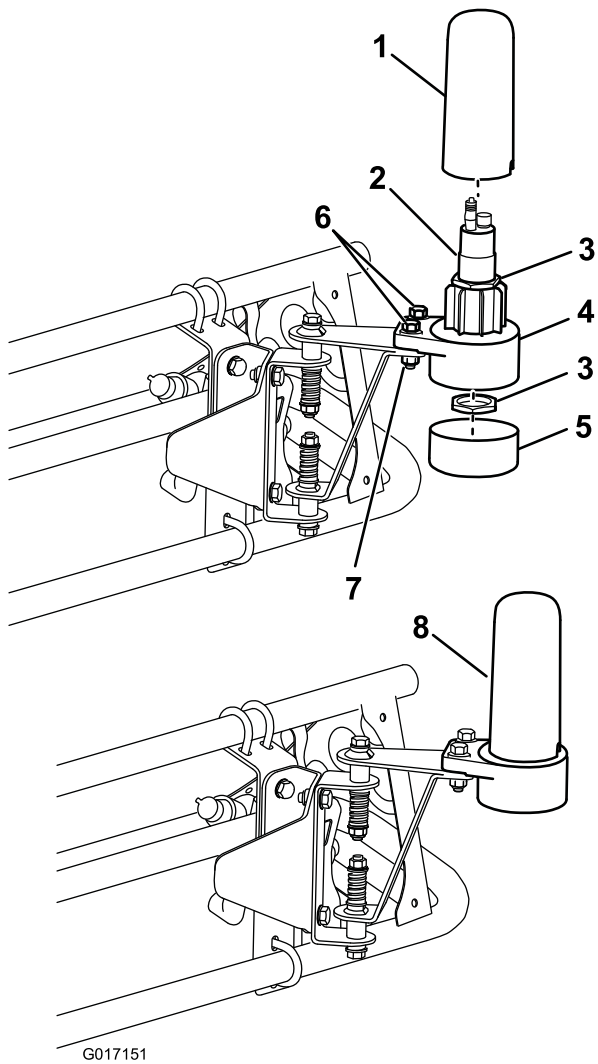

Figure 10
4. Install the lower sensor housing onto the sensor mounting hardware with 2 bolts (5/16 x 1-1/4 inch) and 2 locknuts (5/16 inch) (Figure 10).
6. Insert the sensor into the lower sensor housing, and secure it with 2 large nuts provided with the sensor (Figure 10).
7. Install the cap tube and the cover (Figure 10).